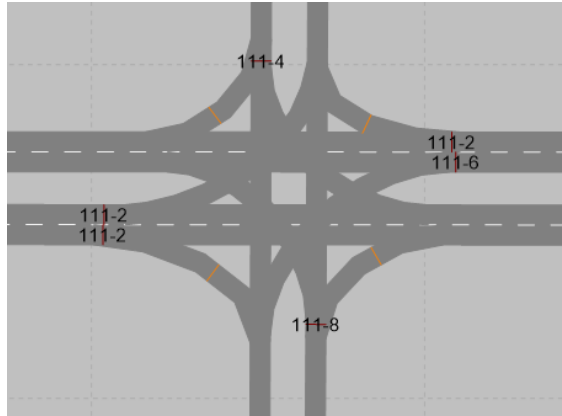

Figure 6: Buzz Blvd and Burdell Dr. intersection SG and Signal Head Association.
step viii. Left-click on the *Vissim Network Editor*. Size the map so you can see the Buzz Blvd and Burdell Dr. intersection. You should see the *SG* associated with the *SHs* as in Figure 6 below. If the *SGs* are not correct go to the *Signal Heads* discussion in **Module 1** and update the signal heads.
- step x. Size the map so you can see the Buzz Blvd and Pi Pkwy. intersection. You should see the *SGs* associated with the *SHs* as in Figure 6 above (same figure as the Buzz Blvd and Burdell Dr. intersection, with the intersection number as 333). If the *SG* are not correct, go to the *Signal Heads* discussion in Module 1 and update the signal heads.